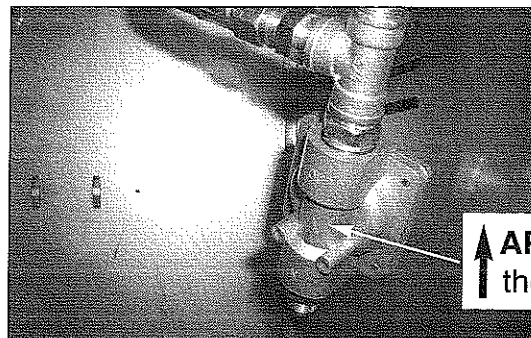

Fig 23
28. Attach the NG regulator to the tee fitting. (See Fig. 23)